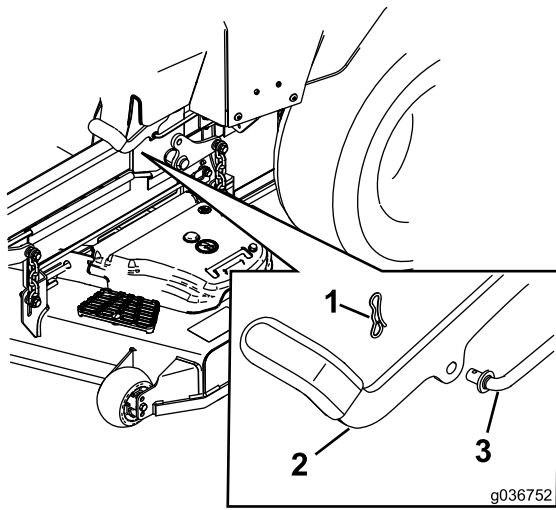

Figure 72
6. If an adjustment is necessary, disengage the parking brake. Remove the cotter pin from the brake linkage shaft (Figure 72).